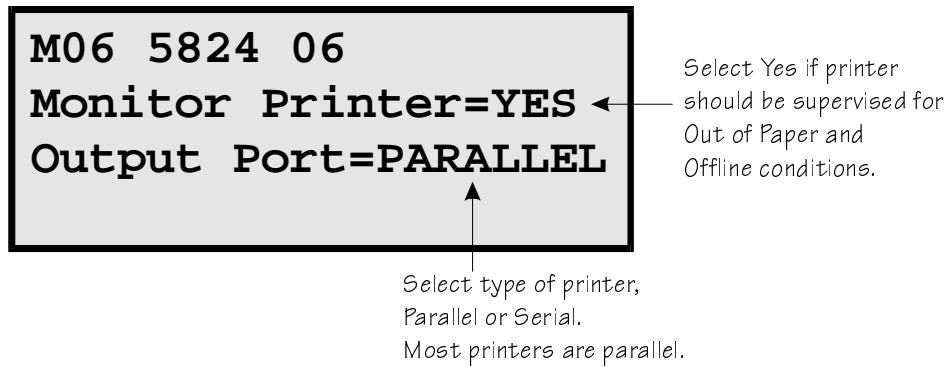

Figure 4-19 Selecting Printer and Output Port Options
5. Press **ENTER** **ENTER** to bypass the next two screens. A screen similar to the one shown in Figure 4-19 will display.